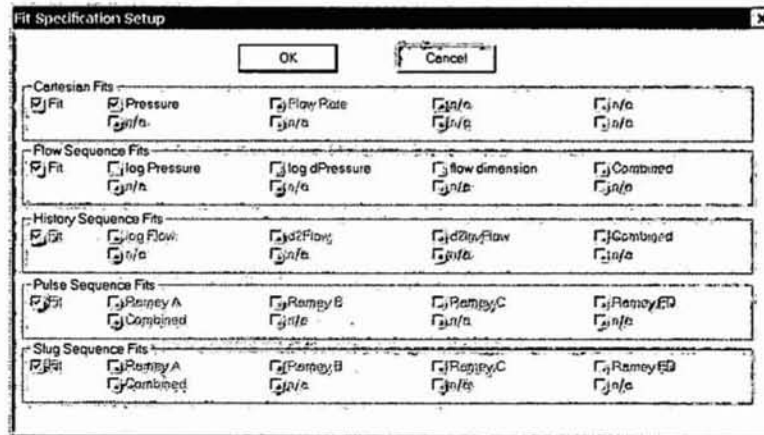

Figure 83. Fit Specification Input Setup Window
- (1) Select Auto Setup → Basic Fits.
- (2) A dialog will appear as shown in figure 83: